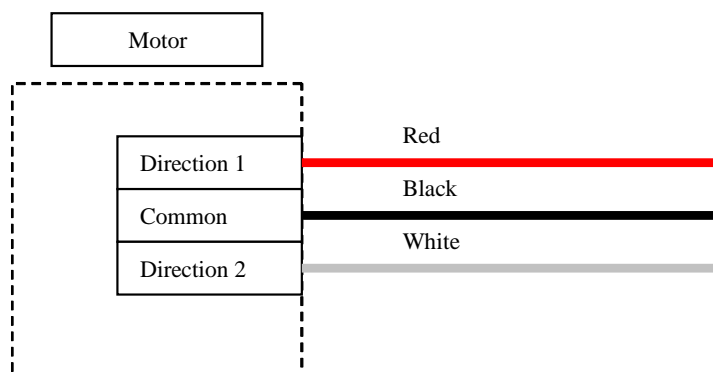

Figure 11: UHV Motor Connection Wires
- The HR UHV motor does not have an outlet cable or a connector. Instead it has 3 TFE jacketed flying wire leads, extending out of the motor: black, red and white, see Figure 11. The red and the white wires are directions: down and up respectively, and the black wire is the common.